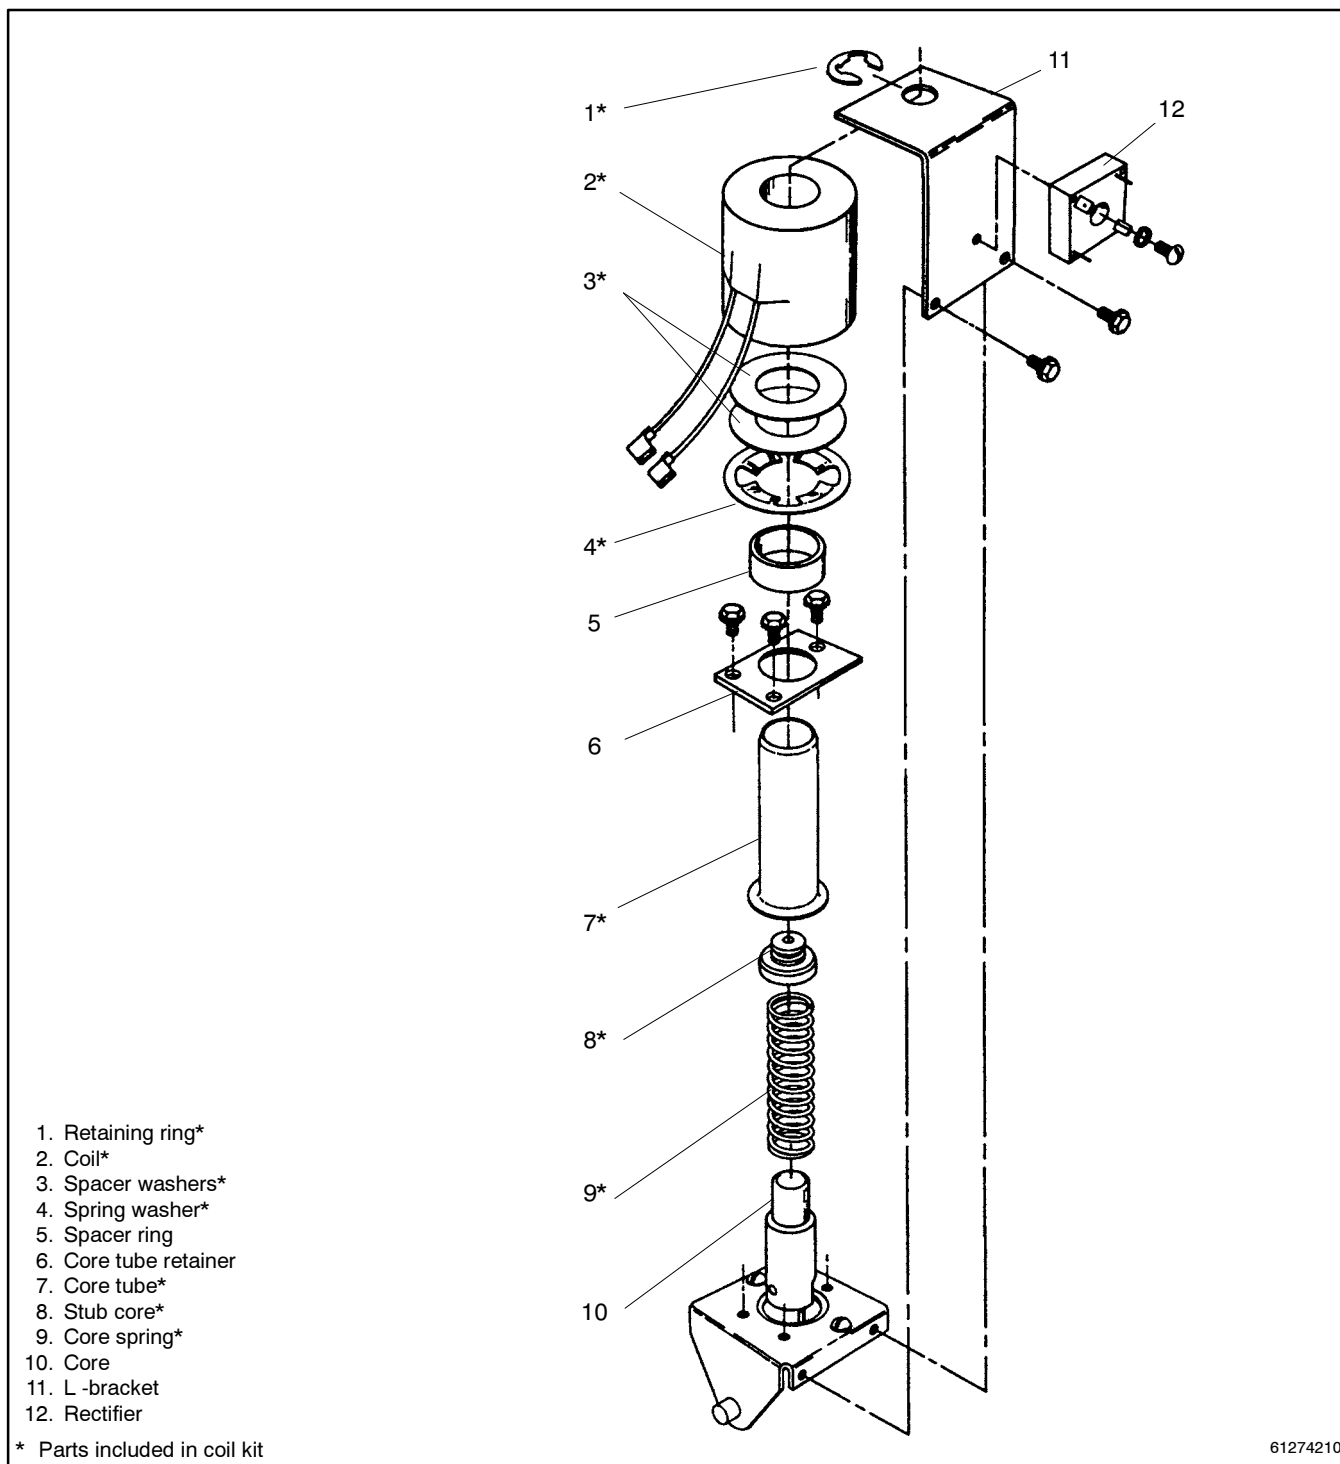

Figure 5-2 Coil Assembly for 30-200 Amp Switches
3. Locate the coil assembly at the top left corner of the power switching device. See Figure 5-2.